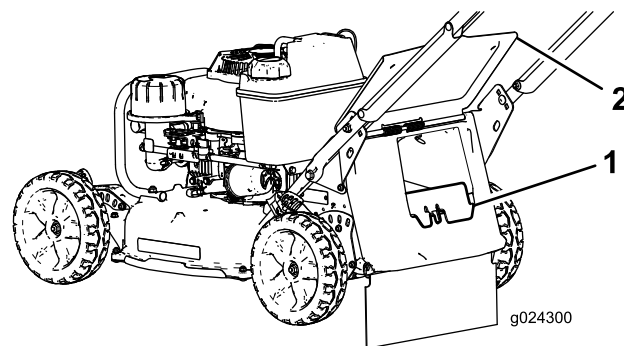

Figure 19
- If the rear-discharge plug is not installed, grip it by the handle, raise the rear door, and insert it into the rear-discharge chute until the latch locks into place (Figure 19).
3. Remove the rear-discharge plug by pushing in the latch with your thumb and pulling the plug out from the machine (Figure 19).